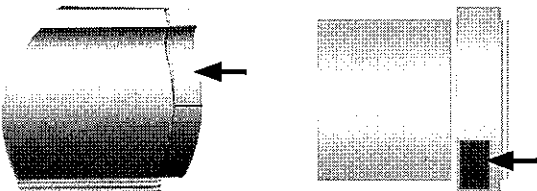

Fig. 3
3. Press and hold the program button on the headrail/motor end until the LED flashes green, then release the button. This places the motor into a learning mode for approximately 20 seconds. (LED continues to flash green.) (Fig. 3)